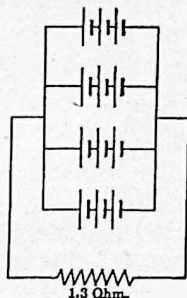

Fig. 181.
(4) Four parallel rows of 3 cells in series: Fig. 181.